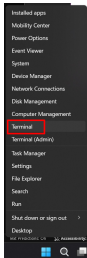

Figure 1
2. **Right-Click** on the **Start Menu** and select **Command Prompt** or **Terminal**, depending on the Windows version. Alternatively, type **CMD** in the **Search Bar** and select **Command Prompt**. (Figure 1)